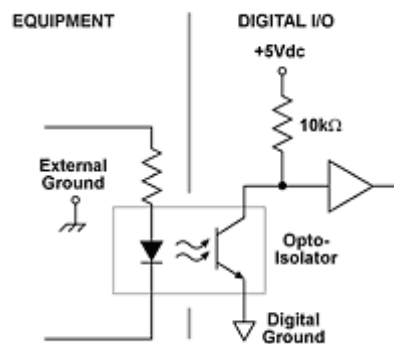

Figure 7. Opto-Coupler for Isolating a Digital Input Channel.
2. **At the input, by using an optical coupler (Figure 7).** In this case, the input side of the device must be powered *from the remote hardware* to maintain isolation.